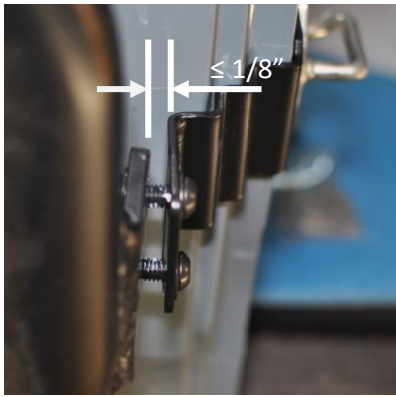

Figure 11: Gap Between Bracket and Product
- g. There should be a small gap at the center bracket before tightening (0-1/8"). If the gap is larger than 1/8", use the provided 1/8" washers as shims (PN 70448) to close the gap to $\leq 1/8$ " (See Figure 11).